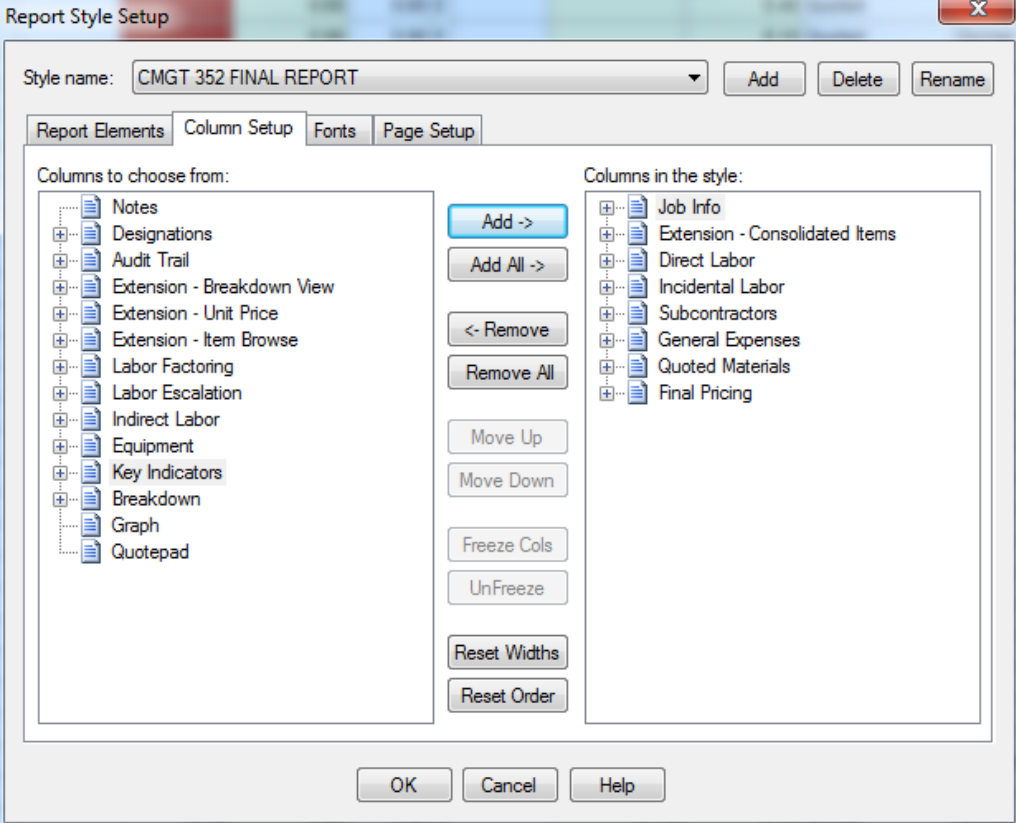

Fig. 6
11. Add the Columns shown in Fig 6 (in the same order) to the Columns in the style: list.